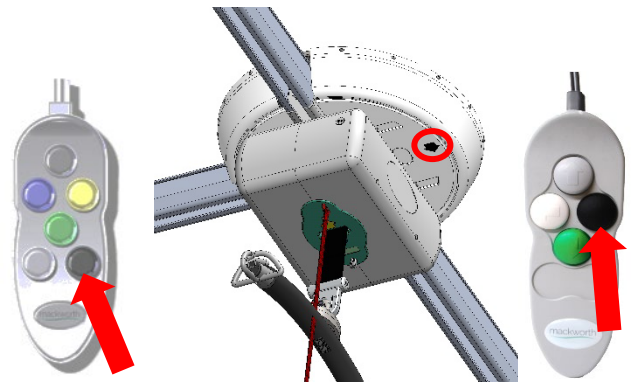

Figure 41
2. Position the hoist in the centre of the turntable rotating track piece. (Figure 41)
5. Press and hold the handset button to begin rotating the turntable track. (Figure 41 and 42)